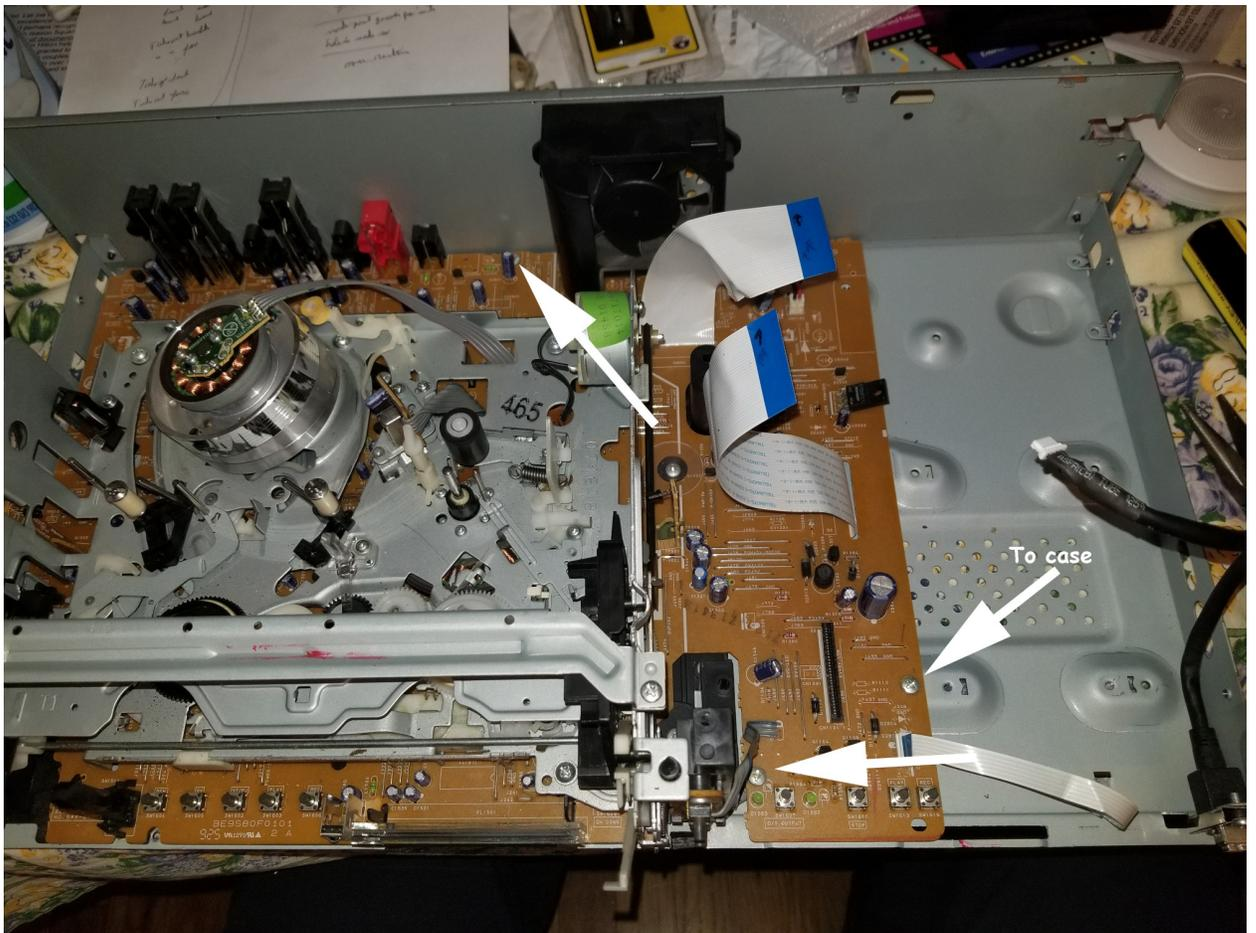

Fig. 18 – Showing 3 of 5 screws to take out
Step 13 – At this point we are getting close. We just have to separate the unit of the VHS deck connected to the circuit board, from the bottom of the case, so we can get to the bottom of the circuit board. To do this we must take out 4 screws attaching the circuit board and VHS deck unit to the dark brown frame and one screw attaching the circuit board to the case. Two of the screws are not shown in Fig. 18 (apologies) but you can find them. Note: in the figure the back is still on but it was the best picture to show location of screws.